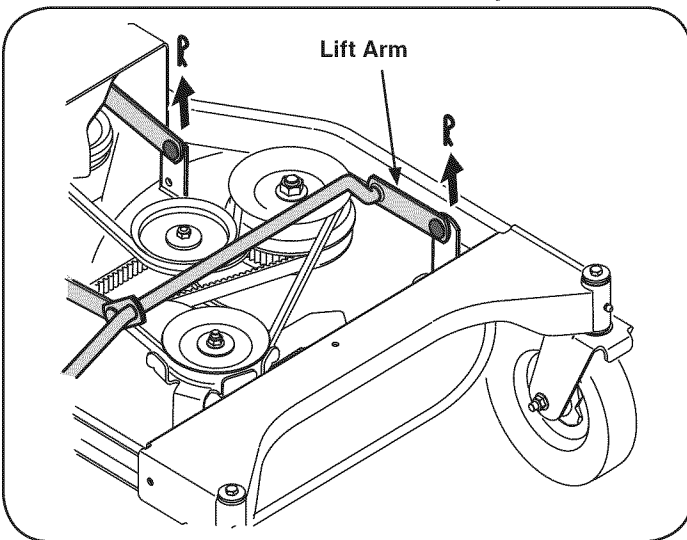

Figure 24
7. Looking at the cutting deck from the left side, locate and carefully remove the hairpin clips that secure the deck supports on the rear left side and front left side of the deck. See Figure 24.